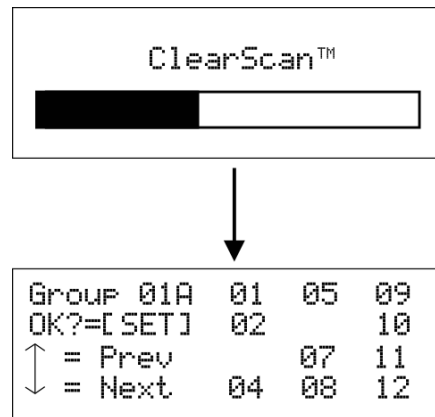

FIGURE 52. Clear Scan Results Screen
When **ClearScan** activates, the base shuts down its transmitters and begins scanning receive frequencies. The frequencies scanned are those in its factory-defined groups and any user-defined groups with at least one (1) frequency defined. The result is a screen like the one shown in Figure 52. The scan groups appear in order from the highest number of clear receive channels available to the least number of clear channels available.